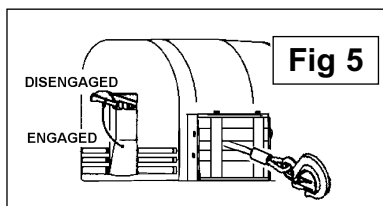

Fig 5
2. Disengage the clutch by lifting the clutch lever (fig 5).
3. Engage the clutch by pushing the lever down (fig 5).